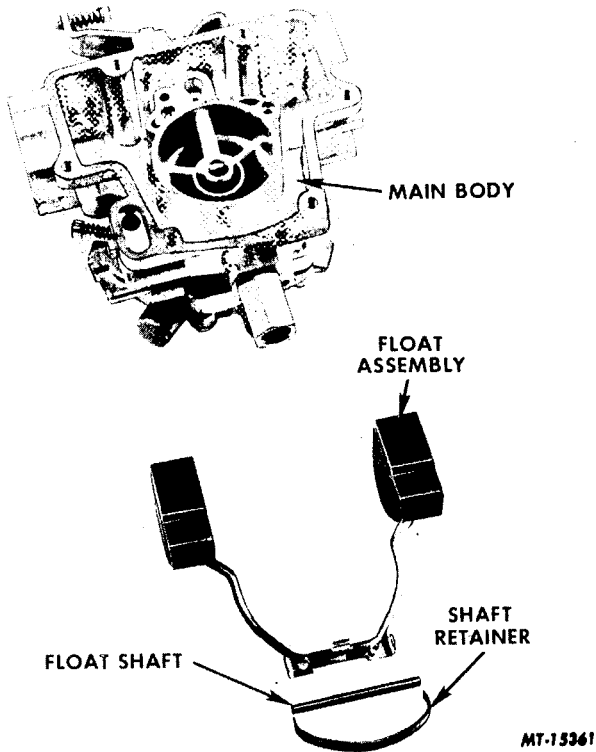

FIG. 21 Remove or Install the Float Assembly
- Remove the fuel inlet valve and fitting assembly; remove gasket. Remove spring float shaft retainer, float shaft and float (Fig. 21).